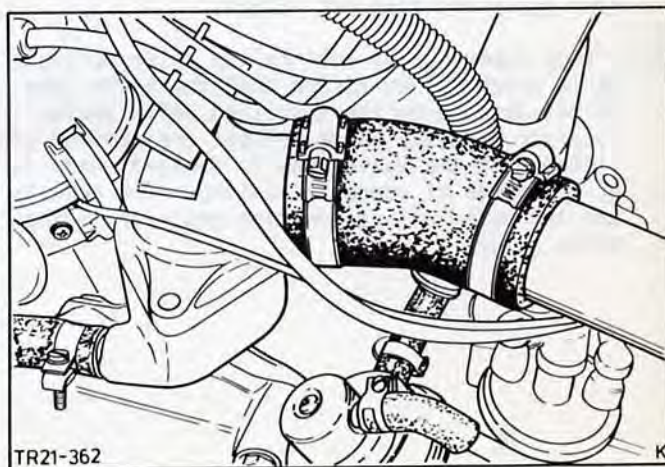

Fig.87. Fit top radiator hose
35. Refit top and bottom radiator hoses and secure hose clips, Fig.87. Fill with coolant.